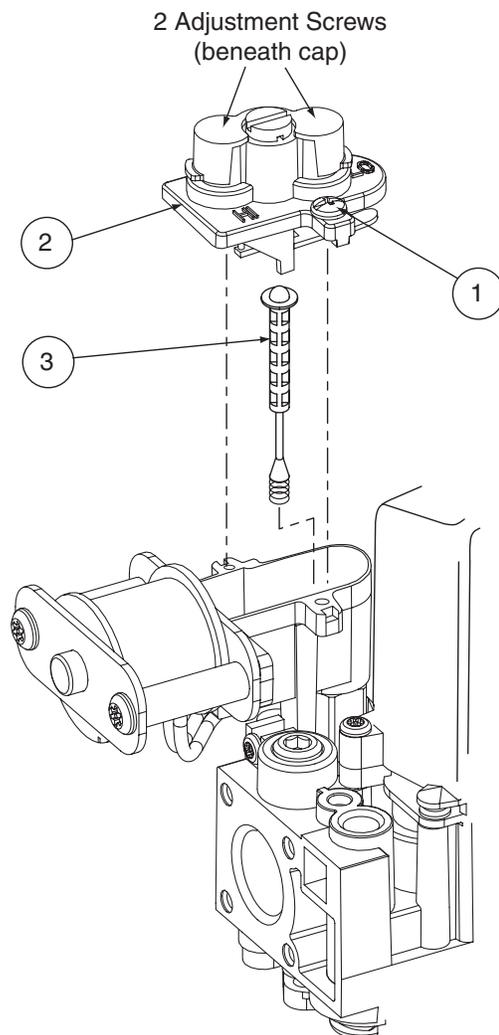
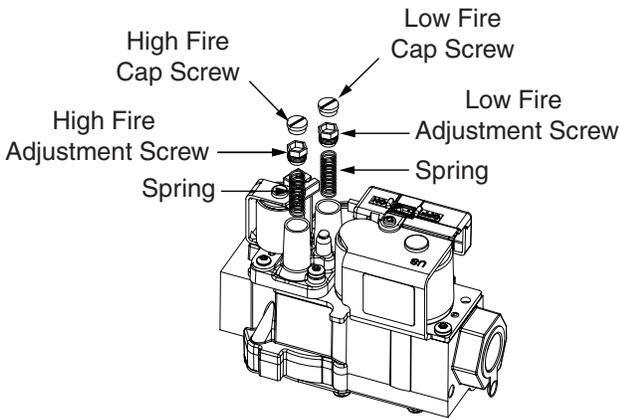

Figure 4. Spring / Stem Assembly Removal
Figure 5. Pressure Regulator Spring & Adjustment Screw Removal
1. Remove two screws (1) securing the pressure regulator cover assembly (2) to the gas valve. See Figure 4.
2. Remove the pressure regulator cover assembly (2) from the gas valve.
3. Remove and discard the existing stem/spring assembly (3) from the gas valve.
4. Install the replacement stem/spring assembly (3) from the conversion kit.
5. Reinstall the pressure regulator cover assembly (2) onto the gas valve.
6. Install the two screws (1) and tighten.
1. Remove the HIGH fire cap screw. See Figure 5.
2-stage gas valve: For VR8205Q2381 models, remove the plastic cap covering the adjustment screws (Figure 4 page 5). For VR9205Q1127 models, remove the cap screw (Figure 5, page 6).
See Figure 4 for VR8205Q2381 models or Figure 5 for VR9205Q1127 models.